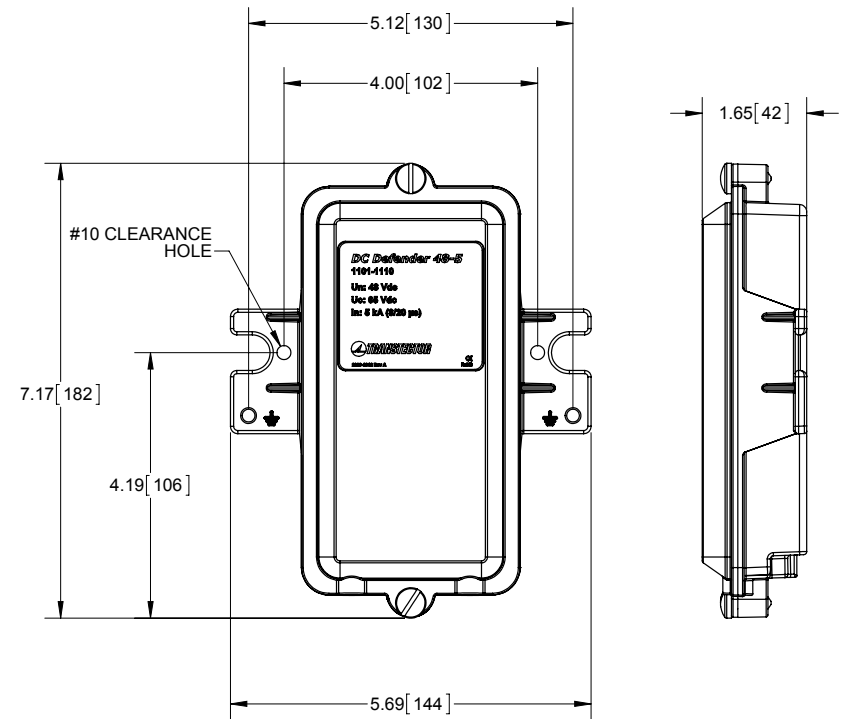
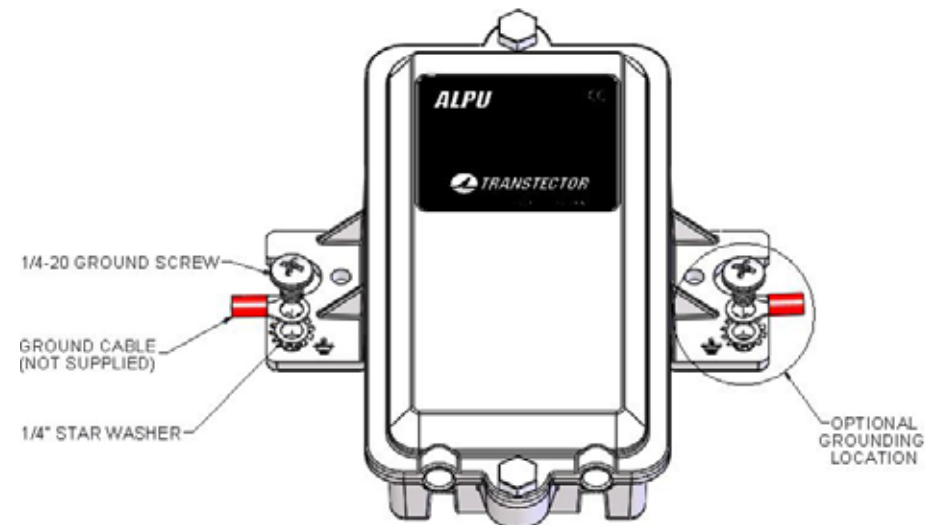

Figure 1 - Mechanical outline drawing (inches [mm])
Figure 2 - Ground Cable Installation
1. The DC Defender (60 Vdc Max, 15 A) is intended to be installed indoors or outdoors, on wall or pole mount applications. The unit features mounting feet on the sides that mount on 4" center-to-center holes with #10 sized hardware. The mount foot also adapts to 4" diameter pole mounting kits with a 4.5" center-to-center holes and larger hardware. Refer to figure 1 for mechanical requirements and connector locations. The optimum ground connection on the metal enclosure unit at the mounting flange on either side is shown in Figure 2. Use minimum 8 AWG wire for a ground reference attachment. DC input and output wires shall be routed through the strain relief at the cable openings. Be sure to install the cables with the unprotected cable installed into the left two terminal lugs and the protected equipment cable in the right two terminal lugs. Positive polarity on the pairs of terminal lugs is located on the left. The enclosure features a built in cable retention that grips the cable with a screw down bracket. A pole mount adapter kit (p/n 1000-1164) is available to meet installations in a wide range of pole diameters from 2" metal fence poles to 10" diameter utility poles.
2. Mount the unit to an outside surface using the two mounting holes shown in Figure 1.
4. Attach appropriate wire gauge for ground wire, as short as possible (less than 3 feet), between the unit and the site grounding point using 1/4" hardware provided in the location shown in Figure 2. Torque to 40-45 in-lbf. Refer to local codes and equipment manufacturers' standards before installation.